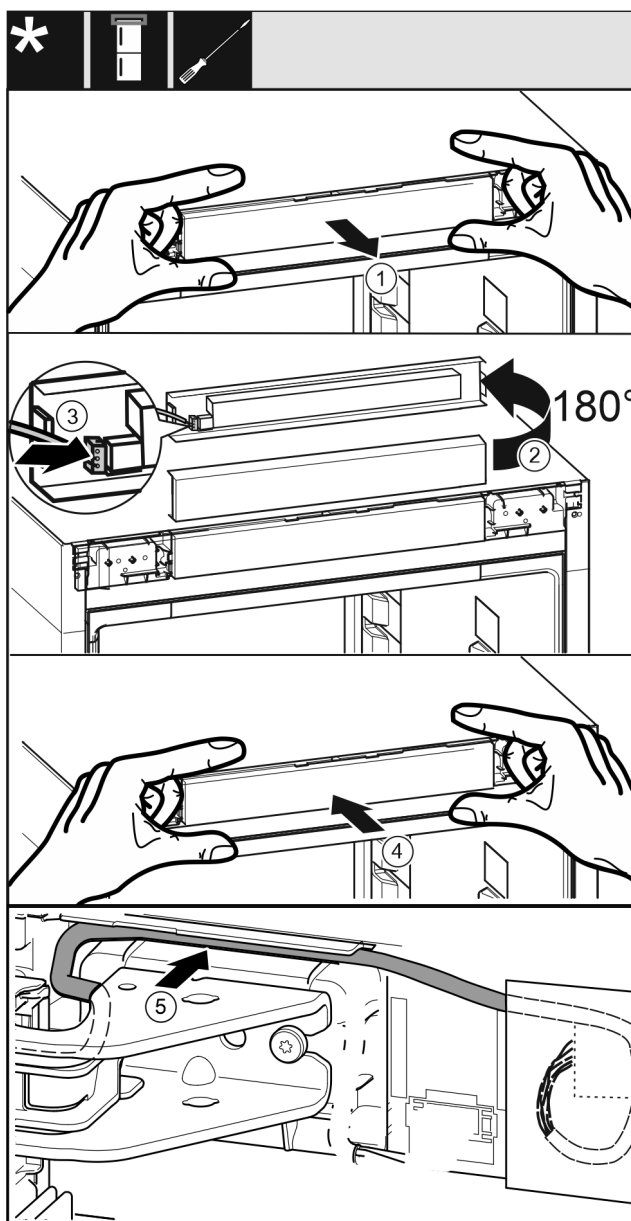

Fig. 38
- Remove the control panel trim Fig. 38 (1) carefully.
- ▶ Turn the control panel trim *Fig. 38 (2)* up by 180°.
- ▶ Engage the plug *Fig. 38 (3)* on the control panel trim.
- ▶ Re-engage the control panel trim *Fig. 38 (4)* on the appliance.
- ▶ Lay the cable *Fig. 38 (5)* carefully in the guide above the top swap bearing block.